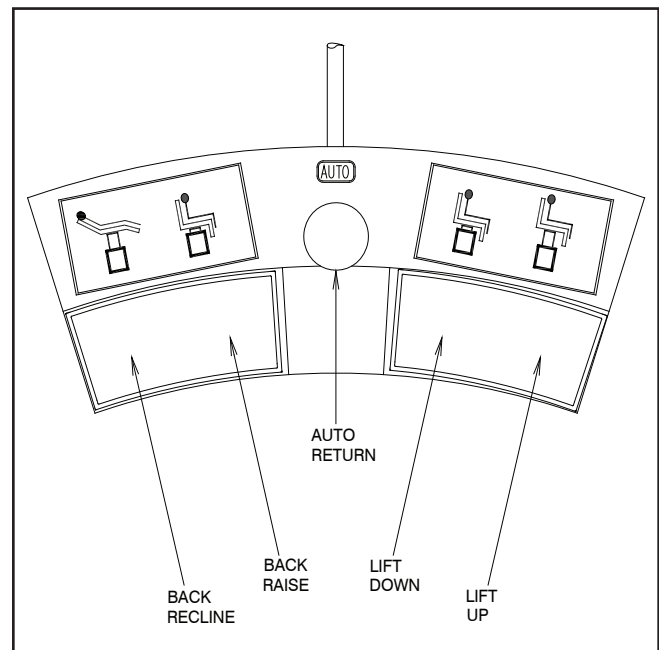

FIGURE 3
- For operation from the footswitch (Figure 3), depress the right side of the pedal to raise the chair lift.
- For operation from the footswitch (Figure 3), depress the right side of the left-hand pedal to raise the chair top.